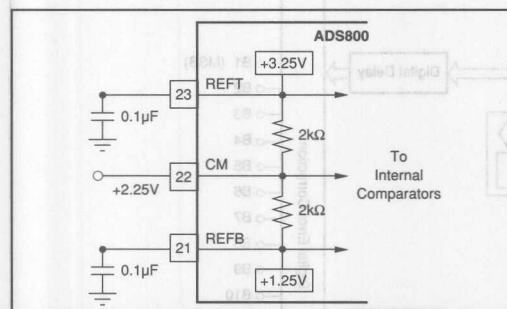

FIGURE 3. Internal Reference Structure.
The analog input of the ADS800 can be configured in various ways and driven with different circuits, depending on the nature of the signal and the level of performance desired. The ADS800 has an internal reference that sets the full scale input range of the A/D. The differential input range has each input centered around the common-mode of +2.25V, with each of the two inputs having a full scale range of +1.25V to +3.25V. Since each input is 2V peak-to-peak and 180° out of phase with the other, a 4V differential input signal to the quantizer results. As shown in Figure 3, the positive full scale reference (REFT) and the negative full scale (REFB) are brought out for external bypassing. In addition, the common-mode voltage (CM) may be used as a reference to provide the appropriate offset for the driving circuitry. However, care must be taken not to appreciably load this reference node. For more information regarding external references, single-ended input, and ADS800 drive circuits, refer to the applications section.